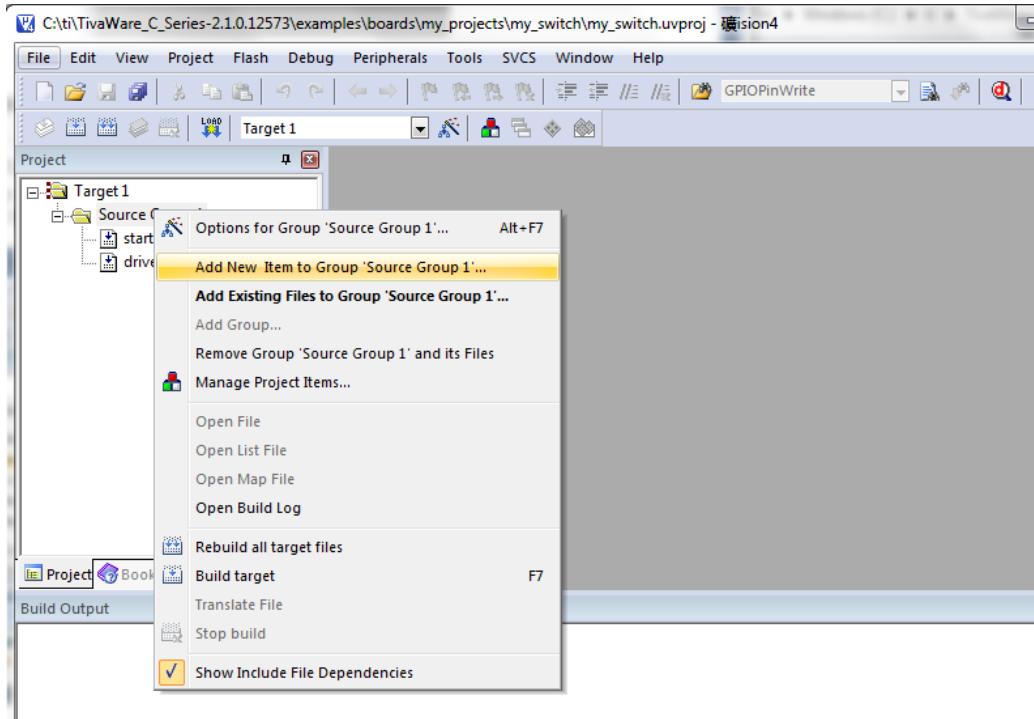
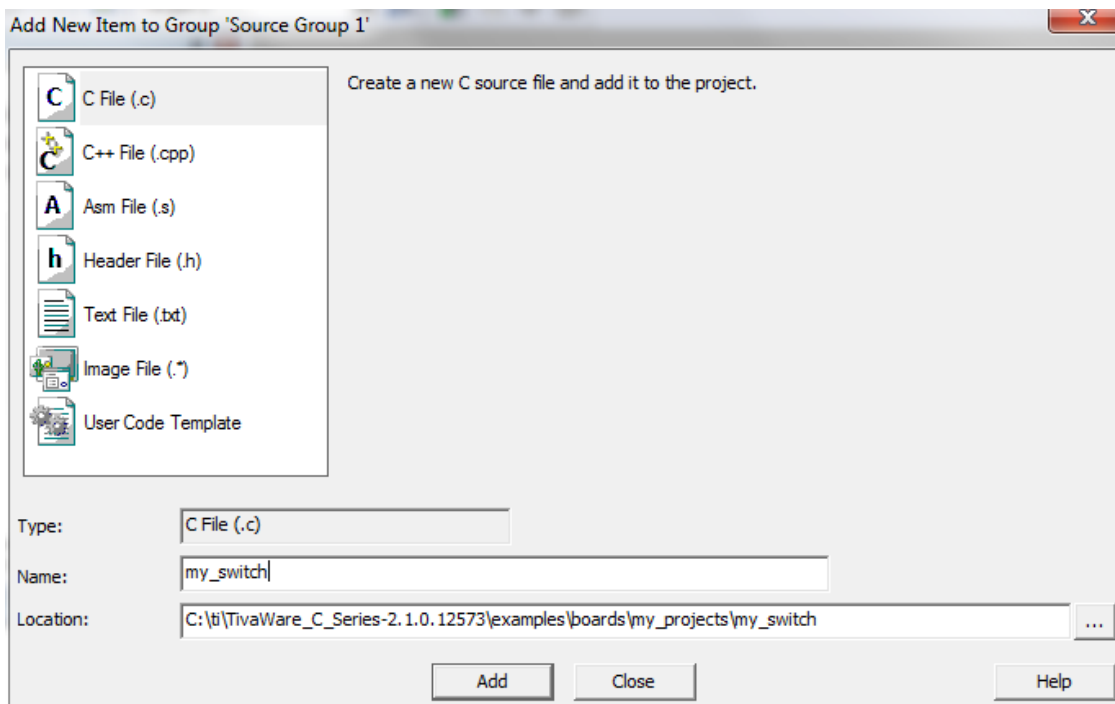

Figure 22
Figure 23
8. Create our main C program file by right-clicking the *Source Group 1* folder in the  $\mu$ Vision IDE and select *Add New Item to Group 'Source Group 1'...* (see Figure 22). When the dialog box pops up to add a new item, choose the file type as C File (.c), and name the new file as *my\_switch* and click Add (see Figure 23).